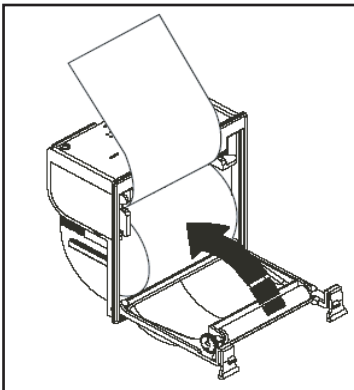

Fig. 39: Completing installation
3. Pull the paper out of the housing as shown in Fig. 39 and close the lid.